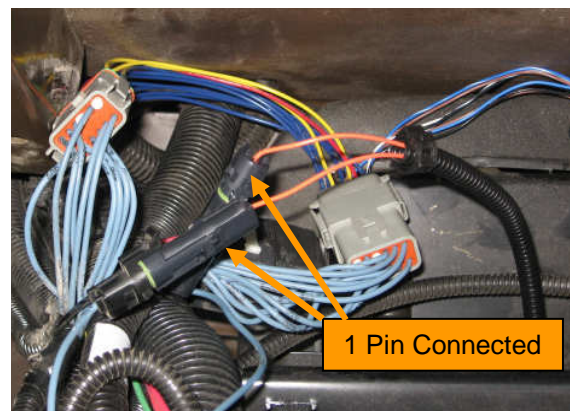

Fig. 4: Switch cables connected
6. Insert the 1 pin connector on the Interface cable (A) into the two connections we disconnected in Step 5 (Fig. 4).